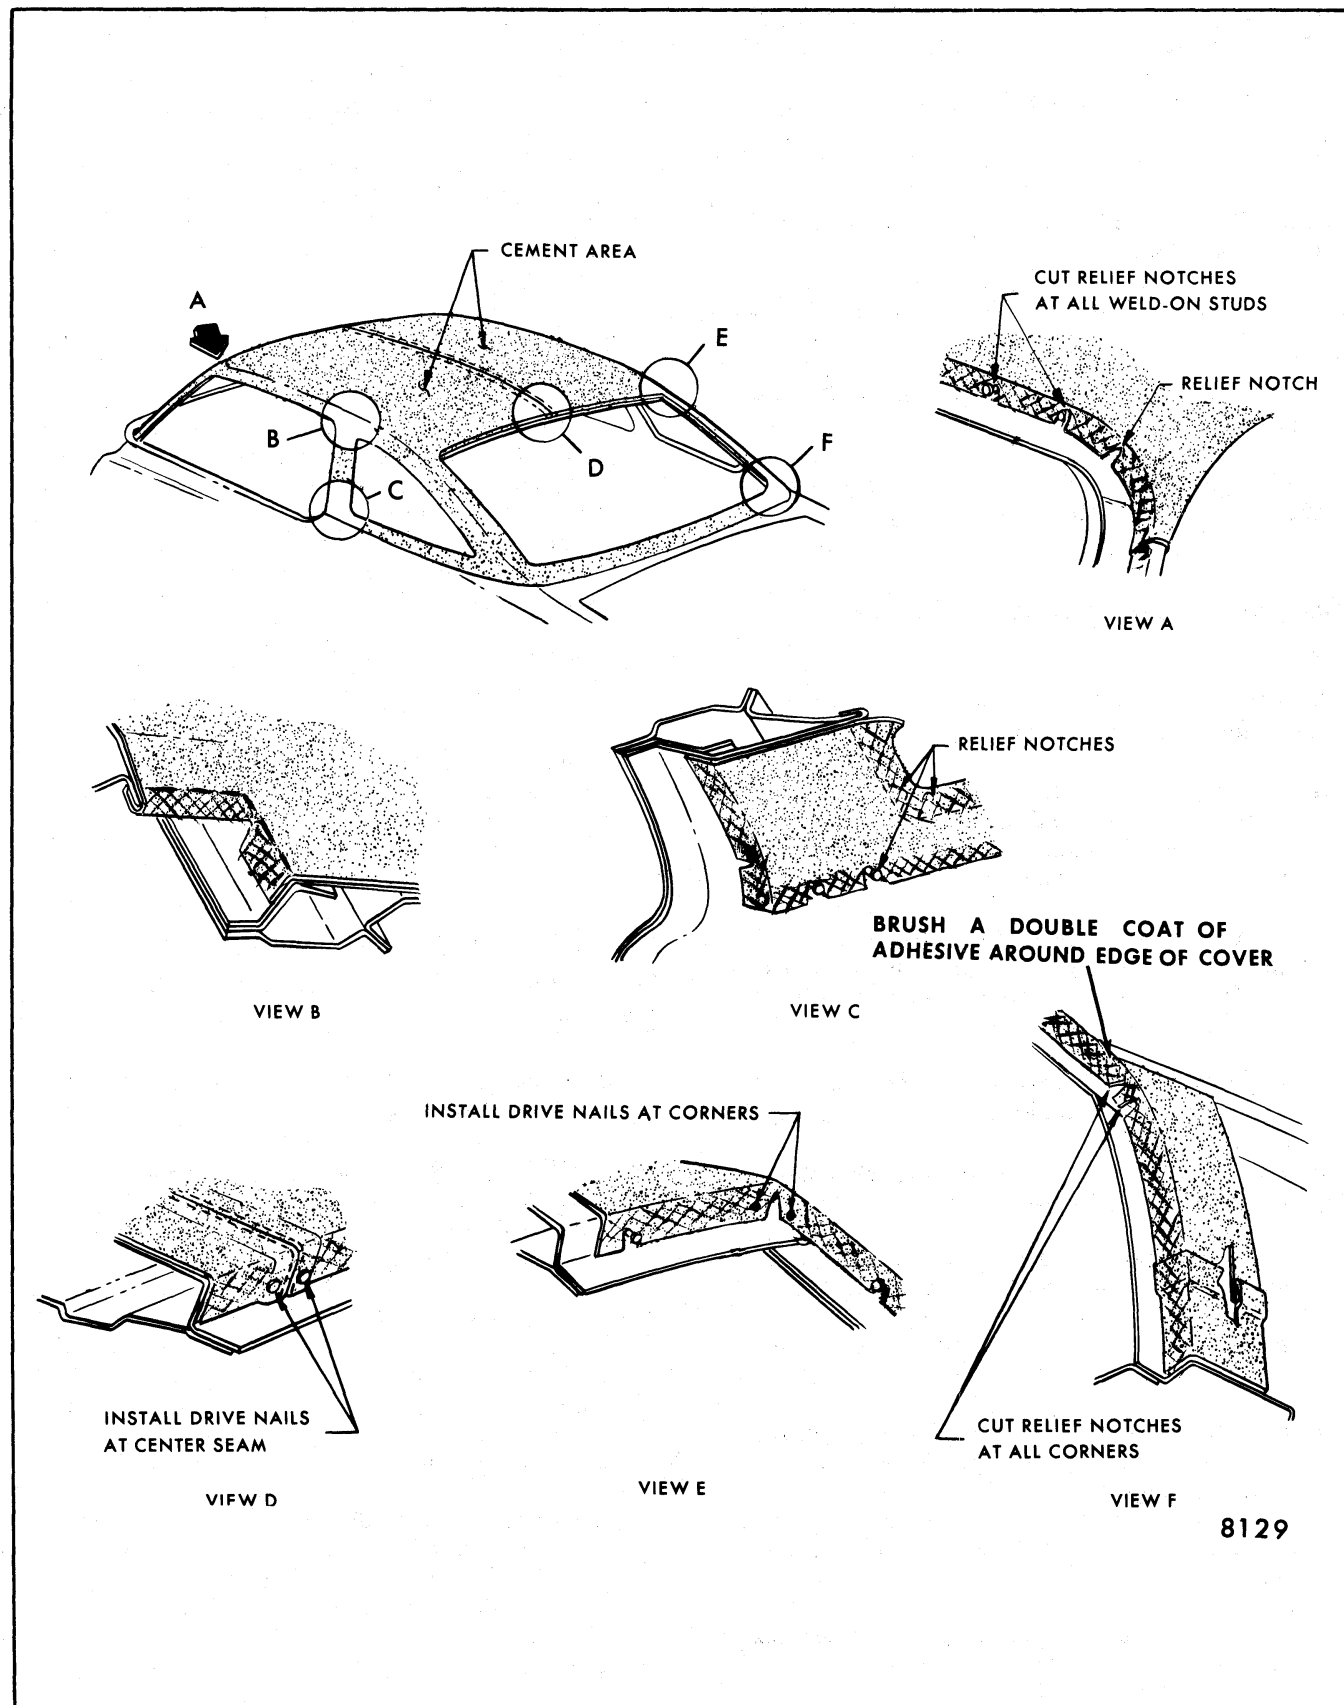

Fig. 8-30-Typical Fabric Roof Cover Installation - "A" Styles
9. Cut relief notches in cover at all weld-on studs and angle cuts as required in corners of window openings (Fig. 8-30). Apply adhesive to window
10. Brush a double coat of adhesive around edges of roof cover as indicated in Figure 8-30.
flange and trim cover as shown in Figure 8-30, View "B".